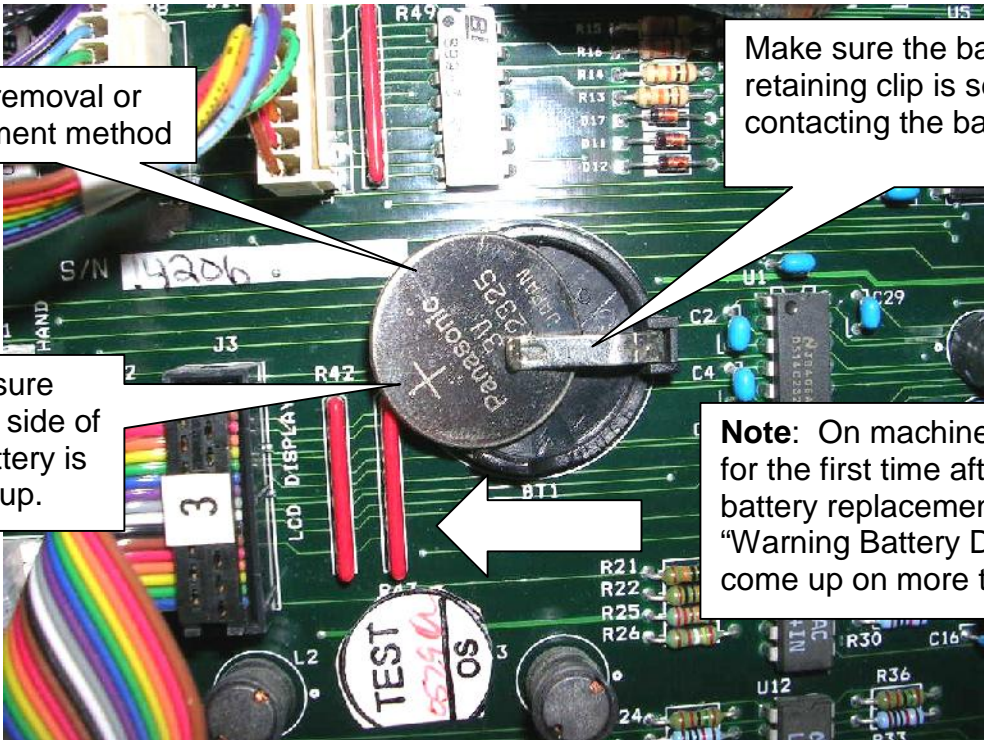

Figure 2
- J Remove the stereo microscope mounting bracket/ring by removing the (2) M2.5 screws on the back side of the retaining ring. (**Note:** Do not remove the (3) screws labeled (1).) **Figure 2**